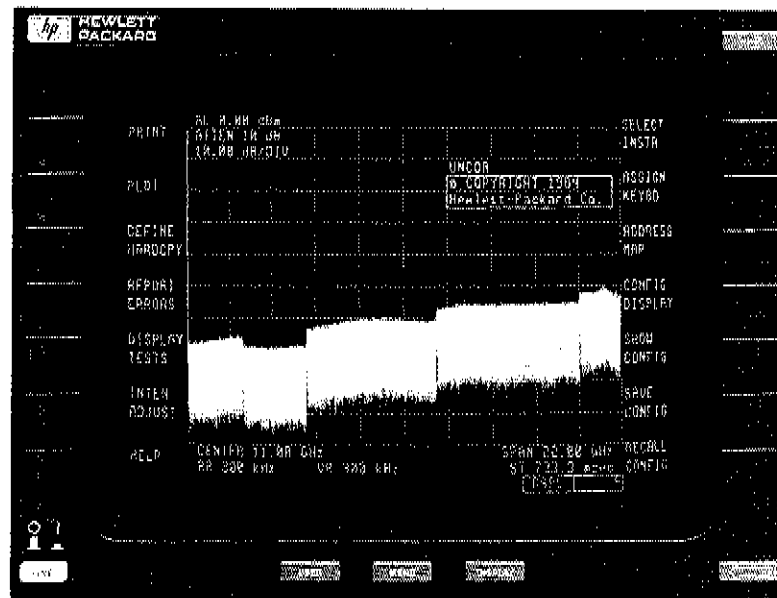

Figure 8. Display Screen
3. When the Display Screen appears (see Figure 8), press the Display Test soft key.